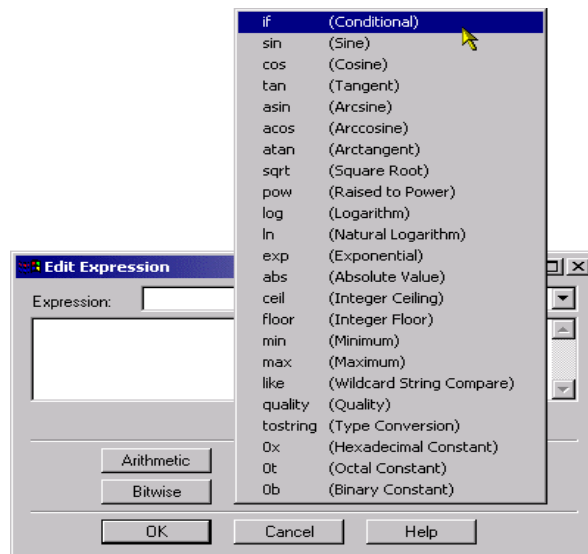

Figure 5.15
5. We will first click on the **Functions** button and select **if**, as shown in **Figure 5.15**.